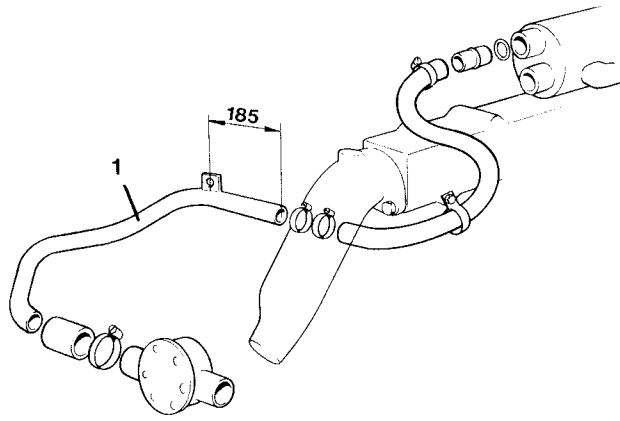
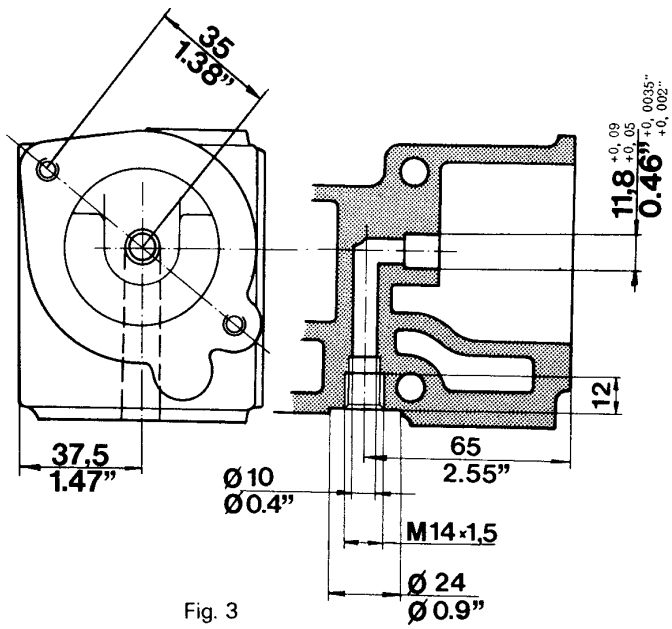
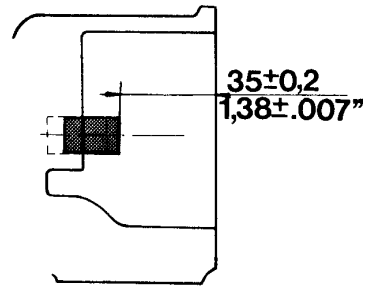

Fig. 2
Fig. 3
Fig. 4
3. Unscrew the existing screw (1). Loosen the delivery pipe clamp and rotate it 180°. Fit the cooling water tube (2) with a rubber ring (3) at each end of the tube. Tighten the screw (1). Unscrew the second and third uppermost screws from the front on the exhaust manifold. Fit the heat exchanger (4) with the screws (3) and the flat washers (6).
4. Place the gasket (7) in the hose connection (8) and screw tight. Fit the connecting pipe (9) and a rubber ring (3) to the heat exchanger and connect the hose (10) using two hose clamps (11).
5. Place the spacers (12) between the cylinder block and the bracket (13) and fit the bracket as high as possible using the screws (14) and washers (15). Fit the expansion vessel (16) with the clamp (17) screw (18) and washer (19). Screw the hose couplings (20) to the heat exchanger and water pump and connect the hoses (21). In order to facilitate checking the coolant level the expansion vessel can be fitted in a location outside the engine compartment. The lower edge of the vessel must, however, not be fitted lower than the highest point of the engine.
6. Remove the existing thermostat housing the thermostat. Fit the pipe (22) with a rubber ring (3) at each end. Then fit the thermostat housing (23), the new thermostat, the new gasket with a screw (24) and washer (25).
7. Fit the nipple (36) in the exhaust manifold. Loosen the generator belt tensioner and remove the V-belt. Also remove the starter motor.
8. Remove the existing screw from the front lower section of the exhaust manifold and fit the pipe (26) with a rubber ring (3) at each end. Fit the coupling piece (27) with a spacer ring (28), gasket (29) and Banjo screw (30). Screw the plug (31) into the connecting piece.
9. Fit the pipe (32), connect it to the expansion vessel with a hose (33) and hose clamps (11). The pipe is attached to the block with a screw (34) and a washer (35).
10. Fit the pipes (37) and (38) with their one end in their respective positions. Fit the circulation pump (39) and the starter motor with the two longer screws (40) and with two washers (41) between the brackets. Fit the V-belt. Replace the temperature sender with the sender in the kit.
13. On engines with a lower engine number than 17973 the existing pipe (1) should be cut and connected to the heat exchanger as shown in fig. 2.
On engines with a lower engine number than 16843, the exhaust manifold must be drilled as shown in fig. 3 and the eby-pass pipe is fitted as shown in fig. 4. Use Araldite to attach the pipe.
3. Die vorhandene Schraube (1) lösen. Druckrohrschelle lösen und 180° drehen. Kühlwasserrohr (2) mit einem Gummiring (3) an jedem Ende des Rohres einbauen. Schraube (1) festziehen. Die zweite und dritte obere Schraube von vorn gesehen am Auspuffrohr lösen. Wärmetauscher (4) mit den Schrauben (5) und den Unterlegscheiben (6) einbauen.
4. Dichtung (7) im Schlauchanschluß (8) anbringen und festschrauben. Anschlußrohr (9) und einen Gummiring (3) im Wärmetauscher einbauen und den Schlauch (10) mit zwei Schlauchschellen (11) anschließen.
5. Distanzscheiben (12) zwischen Zylinderblock und Träger (13) anbringen und den Träger möglichst hoch mit Schrauben (14) und Scheiben (15) einbauen. Ausgleichbehälter (16) mit Klammer (17), Schraube (18) und Scheibe (19) einbauen. Schlauchkupplung (20) in den Wärmetauscher und die Wasserpumpe einschrauben, die Schläuche (21) anschließen. (Um die Prüfung des Kühlflüssigkeitsstandes zu erleichtern, kann der Ausgleichbehälter auch außerhalb des Motorraumes eingebaut werden. Die Unterkante des Behälters darf jedoch nicht niedriger liegen als der höchste Punkt des Motors.)
6. Vorhandenes Thermostatgehäuse und Thermostat ausbauen. Rohr (22) mit einem Gummiring (3) an jedem Ende einbauen. Danach Thermostatgehäuse (23), den neuen Thermostat und die neue Dichtung mit Schraube (24) und Scheibe (25) einbauen.
7. Nippel (36) im Auspuffrohr einbauen. Spanneisen des Generators lösen und den Keilriemen ausbauen. Auch den Anlasser ausbauen.
8. Die vorhandene Schraube vom vorderen unteren Teil des Auspuffrohres ausbauen und das Rohr (26) mit einem Gummiring (3) in jedem Ende einbauen. Verbindungsstück (27) mit Distanzring (28), Dichtung (29) und Hohlschraube (30) einbauen. Stopfen (31) in das Verbindungsstück einschrauben.
9. Rohr (32) einbauen und an den Ausgleichbehälter mit Schlauch (33) und Schlauchschellen (11) anschließen. Das Rohr wird mit Schraube (34) und Scheibe (35) am Motorblock befestigt.
10. Rohre (37 und 38) mit ihren Enden in den jeweiligen Sitzen einbauen. Umwälzpumpe (39) und den Anlasser mit den beiden längeren Schrauben (40) und mit zwei Scheiben (41) zwischen den Trägern einbauen. Keilriemen einbauen. Temperaturgeber gegen den im Satz enthaltenen Geber auswechseln.
13. Bei Motoren mit niedrigerer Motornummer als 17973 ist das vorhandene Rohr abzuschneiden und an den Wärmetauscher anzuschließen, siehe Abb. 2.
- Bei Motoren mit niedrigerer Motornummer als 16843 muß das Auspuffrohr gem. Abb. 3. aufgebohrt und ein Nebenstromrohr eingebaut werden, siehe Abb. 4. Für die Befestigung des Rohres Araldite anwenden.
3. Dévisser la vis (1), défaire l'anneau de fixation du tuyau de refoulement et le tourner de 180°. Monter le tuyau d'eau de refroidissement (2) avec une rondelle en caoutchouc (3) à chaque extrémité du tuyau. Revisser la vis (1). Dévisser la seconde et la troisième vis supérieure sur le conduit d'échappement vu de proue. Monter l'échangeur de chaleur (4) à l'aide des vis (5) et des rondelles plates (6).
4. Mettre la garniture d'étanchéité (7) sur le raccord de flexible (8) et visser. Monter le tube de raccordement (9) et une rondelle en caoutchouc (3) sur l'échangeur de chaleur et raccorder le flexible (10) et le fixer à l'aide de deux colliers de serrage (11).
5. Placer les rondelles d'écartement (12) entre le bloc-cylindres et le support (13) et positionner le support le plus haut possible à l'aide des vis (14) et des rondelles (15). Monter le vase d'expansion (16) à l'aide de l'attache (17) de la vis (18) et de la rondelle (19). Visser les raccords de flexibles (20) sur l'échangeur de chaleur et la pompe à eau, raccorder les flexibles (21). (Pour faciliter la vérification du niveau de liquide de refroidissement, le vase d'expansion peut être monté à l'extérieur de la cale moteur. La partie inférieure du vase d'expansion ne doit néanmoins pas être placée à un niveau moins élevé que le point le plus haut du moteur.)
6. Démonter le boîtier de thermostat se trouvant là et le thermostat. Monter le tuyau (22) avec une rondelle en caoutchouc (3) à chaque extrémité. Monter ensuite le boîtier de thermostat (23), le nouveau thermostat et le joint d'étanchéité à l'aide de la vis (24) et de la rondelle (25).
7. Monter le raccord (36) sur le conduit d'échappement. Démonter la bride de serrage de l'alternateur et démonter la courroie. Démonter aussi le démarreur.
8. Démonter la vis se trouvant sur la partie inférieure du conduit d'échappement et monter le tuyau (26) avec une rondelle en caoutchouc (3) à chaque extrémité. Monter la pièce de raccordement (27) avec la bague d'écartement (28), la rondelle d'étanchéité (29) et la vis creuse (30). Visser en place le bouchon (31) sur la pièce de raccordement.
9. Monter le tuyau (32), raccorder au vase d'expansion à l'aide du tube (33) et des colliers de serrage (11). Le tuyau est assujéti du bloc à l'aide de la vis (34) et de la rondelle (35).
10. Monter les tuyaux (37) et (38) avec chacune de leurs extrémités dans son emplacement respectif. Monter la pompe de circulation (39) et le démarreur à l'aide des deux vis (40) plus longues et des deux rondelles (41) placées entre les supports. Monter la courroie. Echanger le thermo-contact contre celui fourni dans le kit.
13. Sur les moteurs aux numéros antérieurs à 17973, le tuyau (1) devra être coupé et raccorder à l'échangeur de chaleur d'après la figure 2.
Sur les moteurs aux numéros antérieurs à 16843, le conduit d'échappement devra être percé comme l'indique la figure 3 et le tuyau de dérivation monté d'après la figure 4. Employer de l'Araldite pour fixer le tuyau.